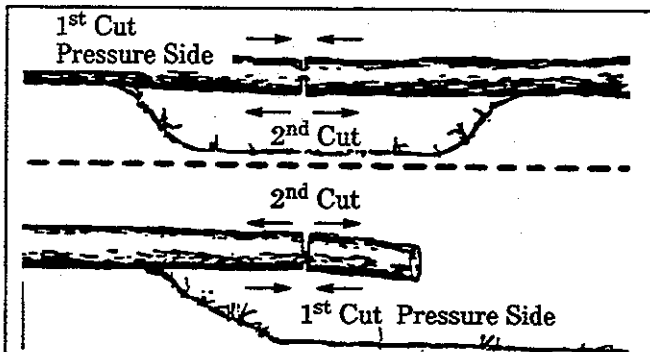

Figure 21
- f. Give special attention to logs under strain to prevent the saw from pinching. Make the first cut on the pressure side to relieve the stress on the log. Figure 21.